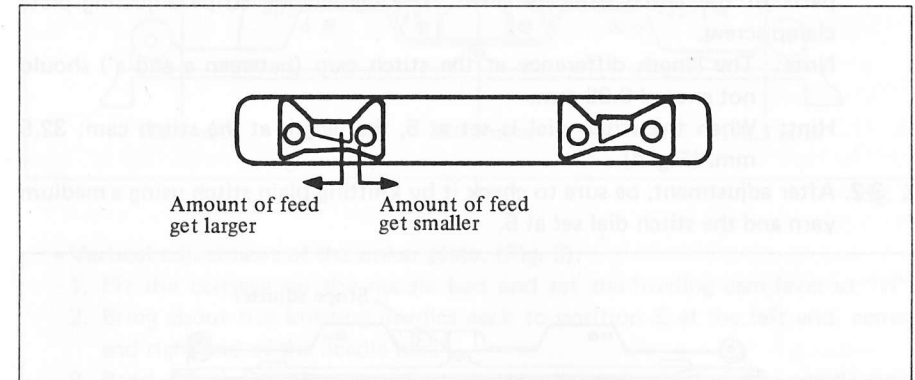

Fig. 8
- 3-2. Loosen the feed hook clamping screw and move it inward and the amount of feed will get smaller but move it outward the amount of feed will get larger. (Fig. 8).